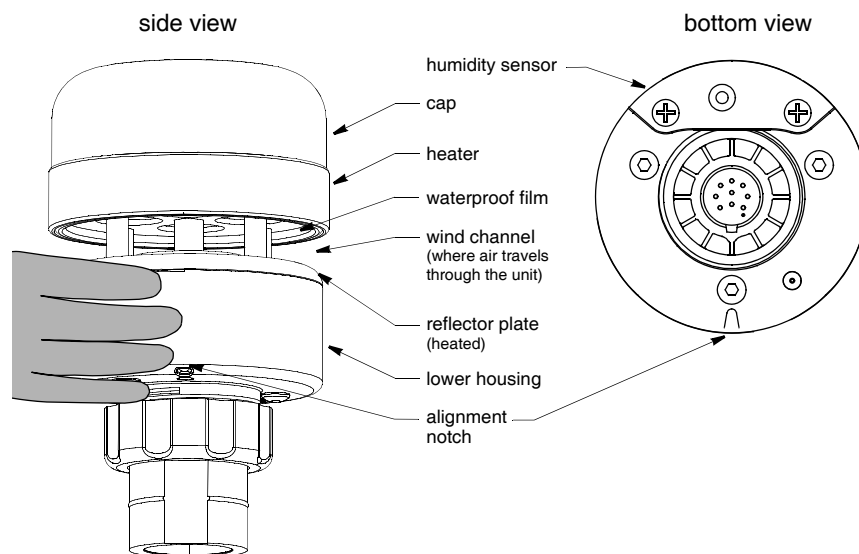

Figure 3. WeatherStation Instrument with heater (120/220WXH shown)
Installing (Figure 3)
4. To accurately measure the wind direction, be sure to orient the alignment notch correctly. Grasp the *lower housing* of the WeatherStation Instrument below the reflector plate and hold it in the proper position (Figure 3).